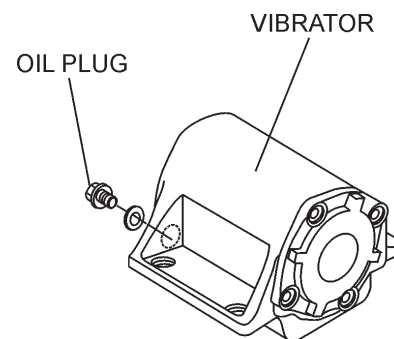

Figure 5. Vibrator Oil Plug
2. Check vibrator oil level by removing the plug (vibrator oil gauge) as shown in Figure 5. The oil level should be up to the oil plug. The vibrator holds 140 cc (approximately 1 pint). **IMPORTANT**, if oil is required, replace using only SAE 10W-30 motor oil.